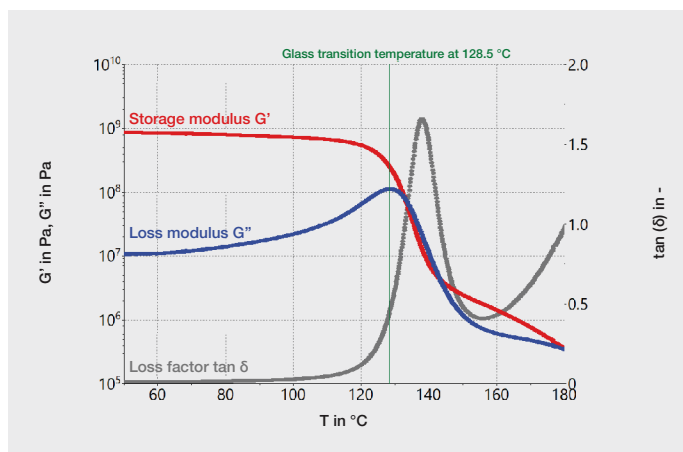

Figure 2: Dynamic mechanical thermal analysis with polycarbonate (PC).
Figure 2 shows the results of a dynamic mechanical thermal analysis (DMTA) of a polycarbonate (PC) sample performed with the solids clamping tool. For this purpose, specimens with dimensions of 50.0 mm x 10.0 mm x 2.0 mm were produced with a suitable mold with the HAAKE MiniJet Pro Injection Molding Machine (Figure 3).¹